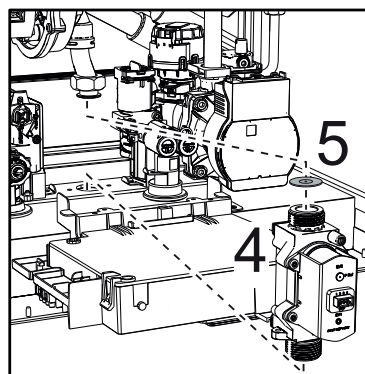

fig. 55 -
- Extract the gas valve "4" gas diaphragm "5" ("fig. 55 -").